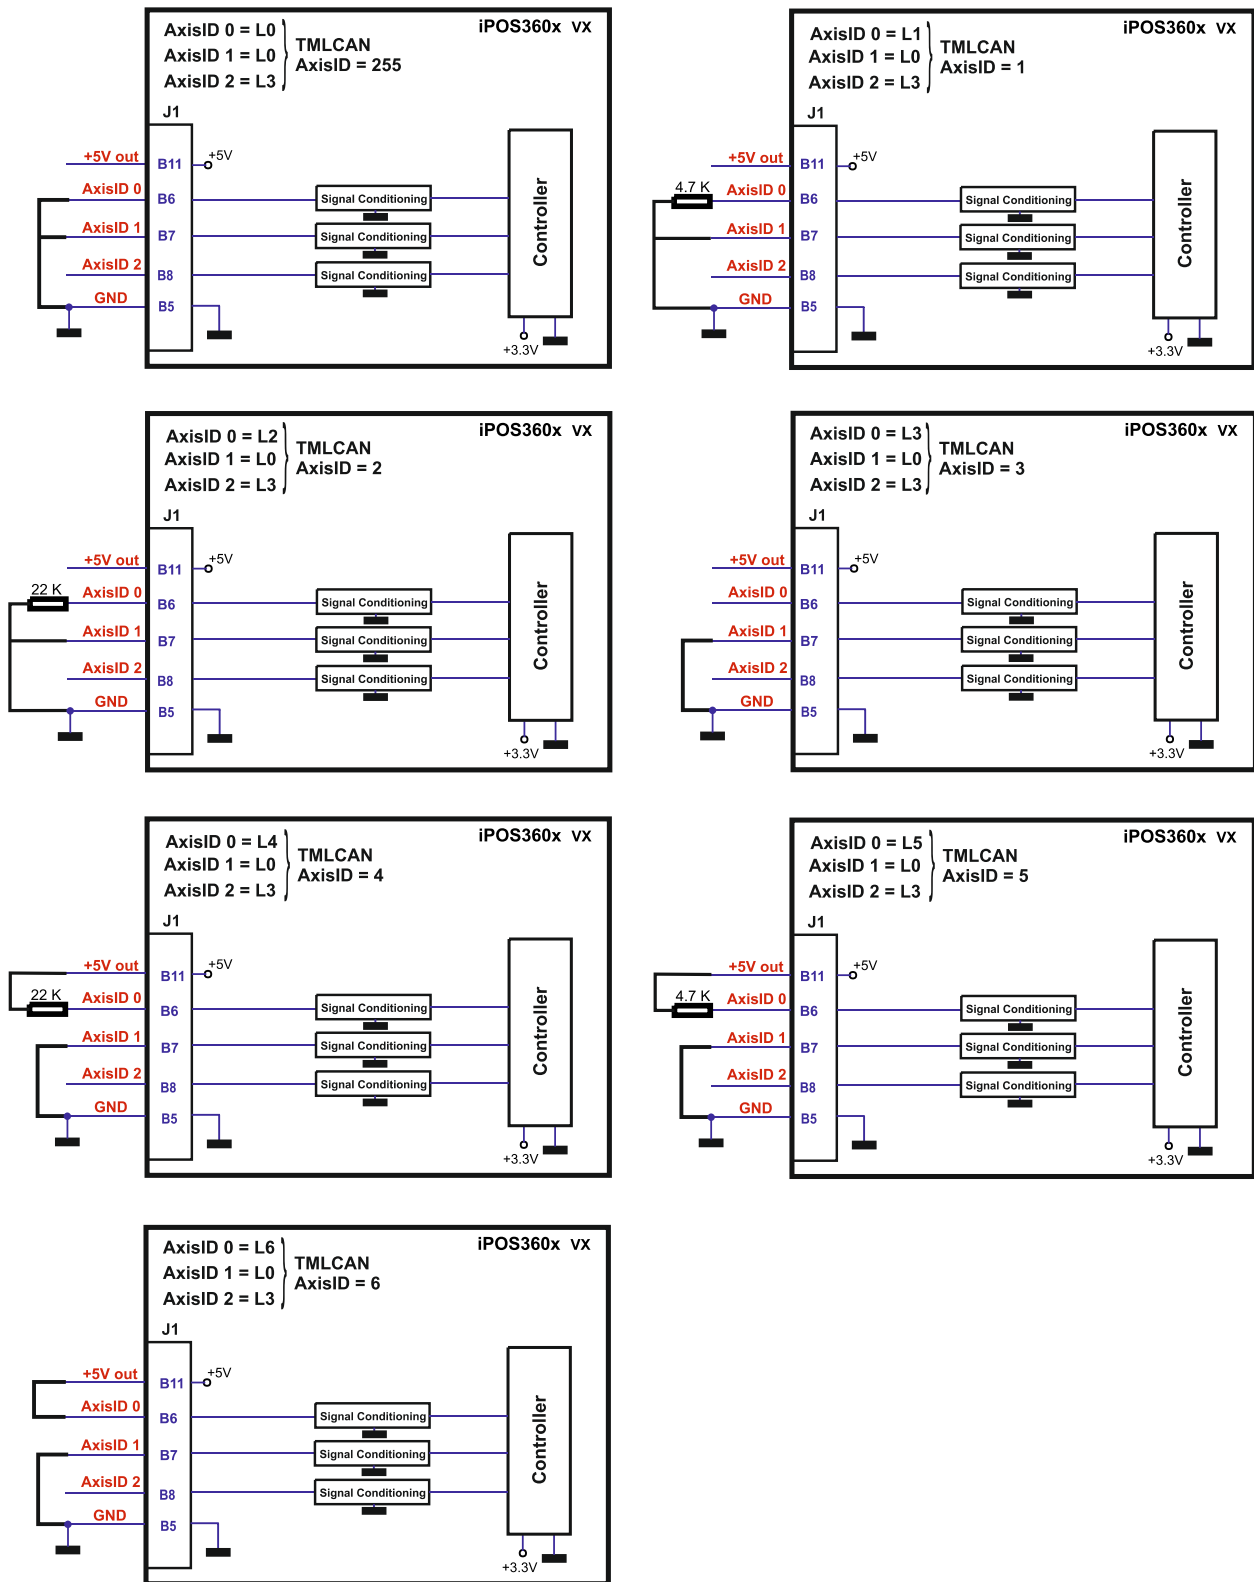

Figure 3.35. Axis ID Setting Examples. TMLCAN mode
**Figure 3.35** shows how to set the 7 levels on the AxisID 0 input and the resulting axis ID values when AxisID 2 input level is set for **TMLCAN** operation. Chapter 3.9.2 shows how to set all possible values for axis ID in this mode of operation.